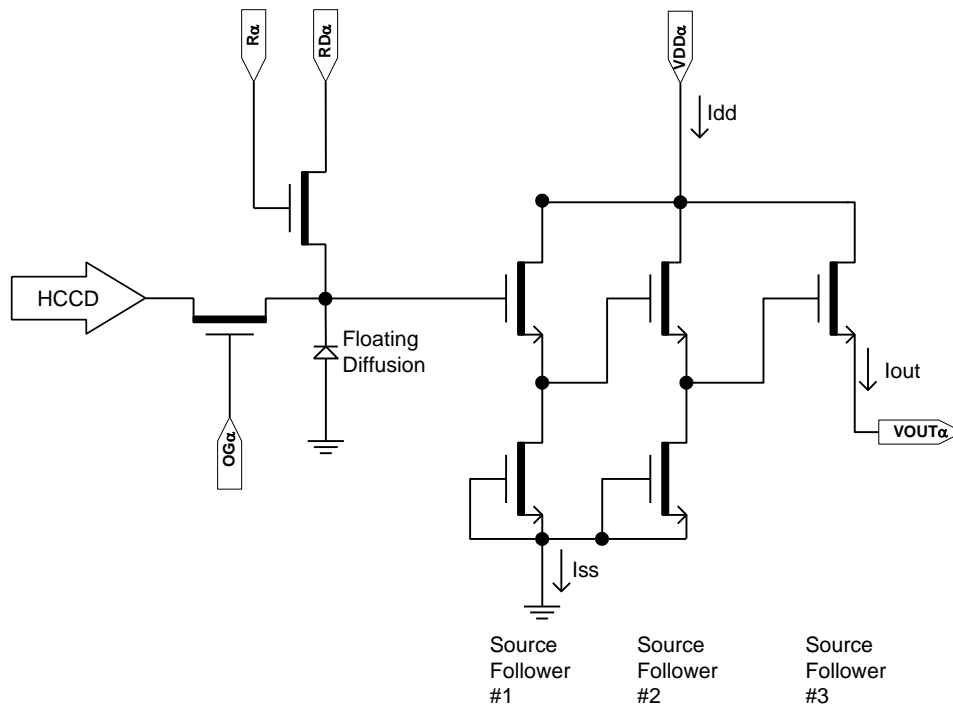

Figure 17: Output Amplifier
2. The maximum DC current is for one output.  $I_{dd} = I_{out} + I_{ss}$ . See Figure 17.